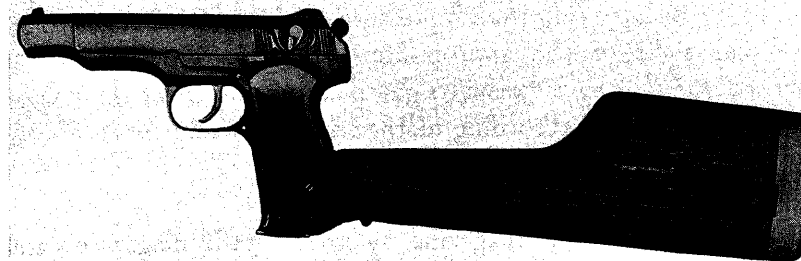

Figure 22. Stechkin with holster-stock attached.
b. The Stechkin is similar to the Makarov pistol (para 3) in appearance and in basic operation, but the Stechkin is larger, has a safety selector on the slide, has a four position adjustable rear sight, has a fully automatic fire rate reduction device, and has a 20-round magazine. The pistol is equipped with a wooden holster that can be attached to the grip for use as a shoulder stock (fig 22). The Stechkin fires the Soviet 9x18-mm pistol cartridge (sec VI).
c. The holster-stock (fig 22) is attached by sliding its male lug into the recess in the handle of the Stechkin pistol until the catch on the stock snaps into place. Remove the holster-stock by pressing the thumbpiece of the catch away from the pistol and sliding the stock off the pistol.